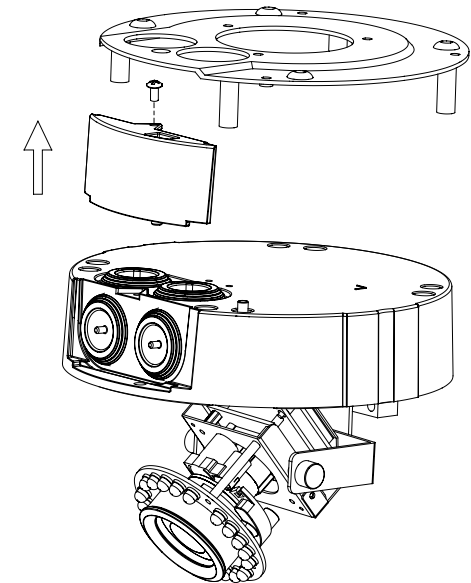

Figure 2.3
2. Remove the small screw to release the faceplate on the side of the base of the camera. (Figure 2.3)